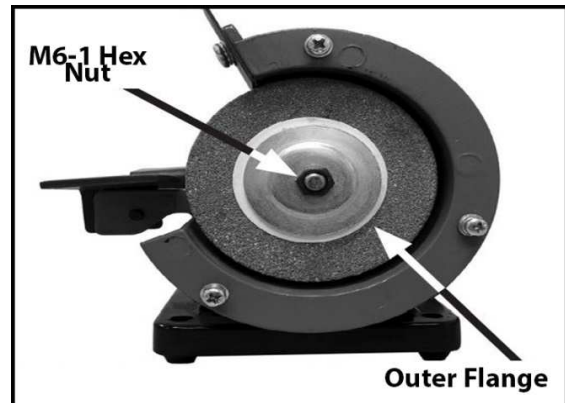

Figure 12
4. Remove M6-1 hex nut. See Figure 12 below.